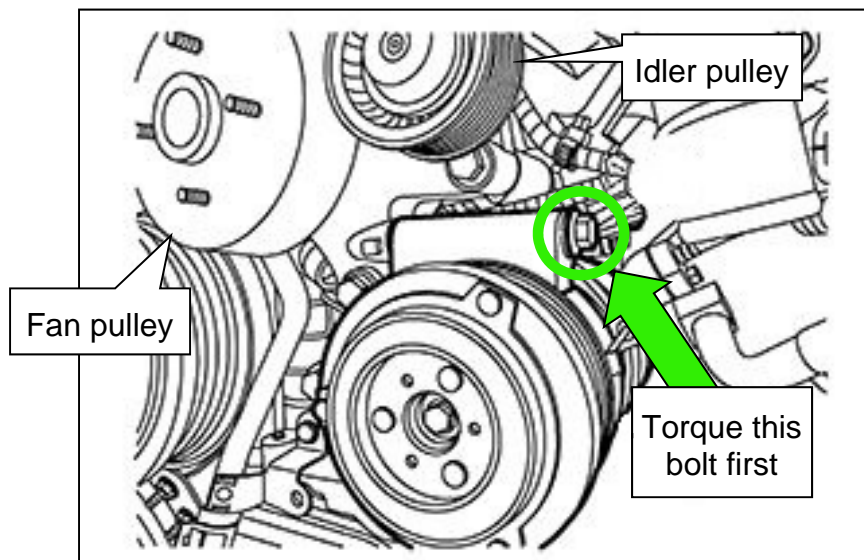

Figure 4
- Torque the shared A/C compressor/fan bracket bolt first (Figure 4), then torque the remaining fan bracket bolts.